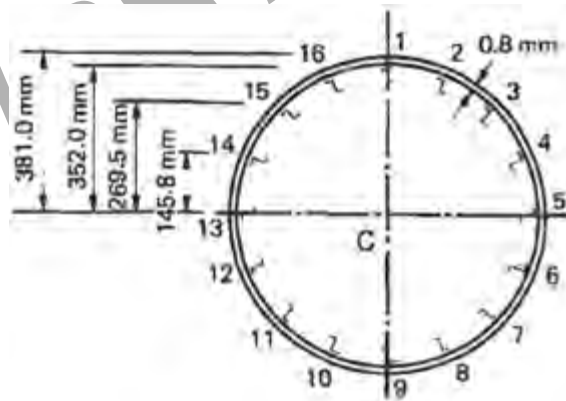

Figure 1:
4. A Fuselage has a circular cross-section as shown in figure 1. The cross-sectional area of each stringer is 100 mm^2 and the fuselage is subjected to bending moment of 200 kNm applied in the vertical plane of symmetry, at this section. Calculate the direct stress distribution. [16]